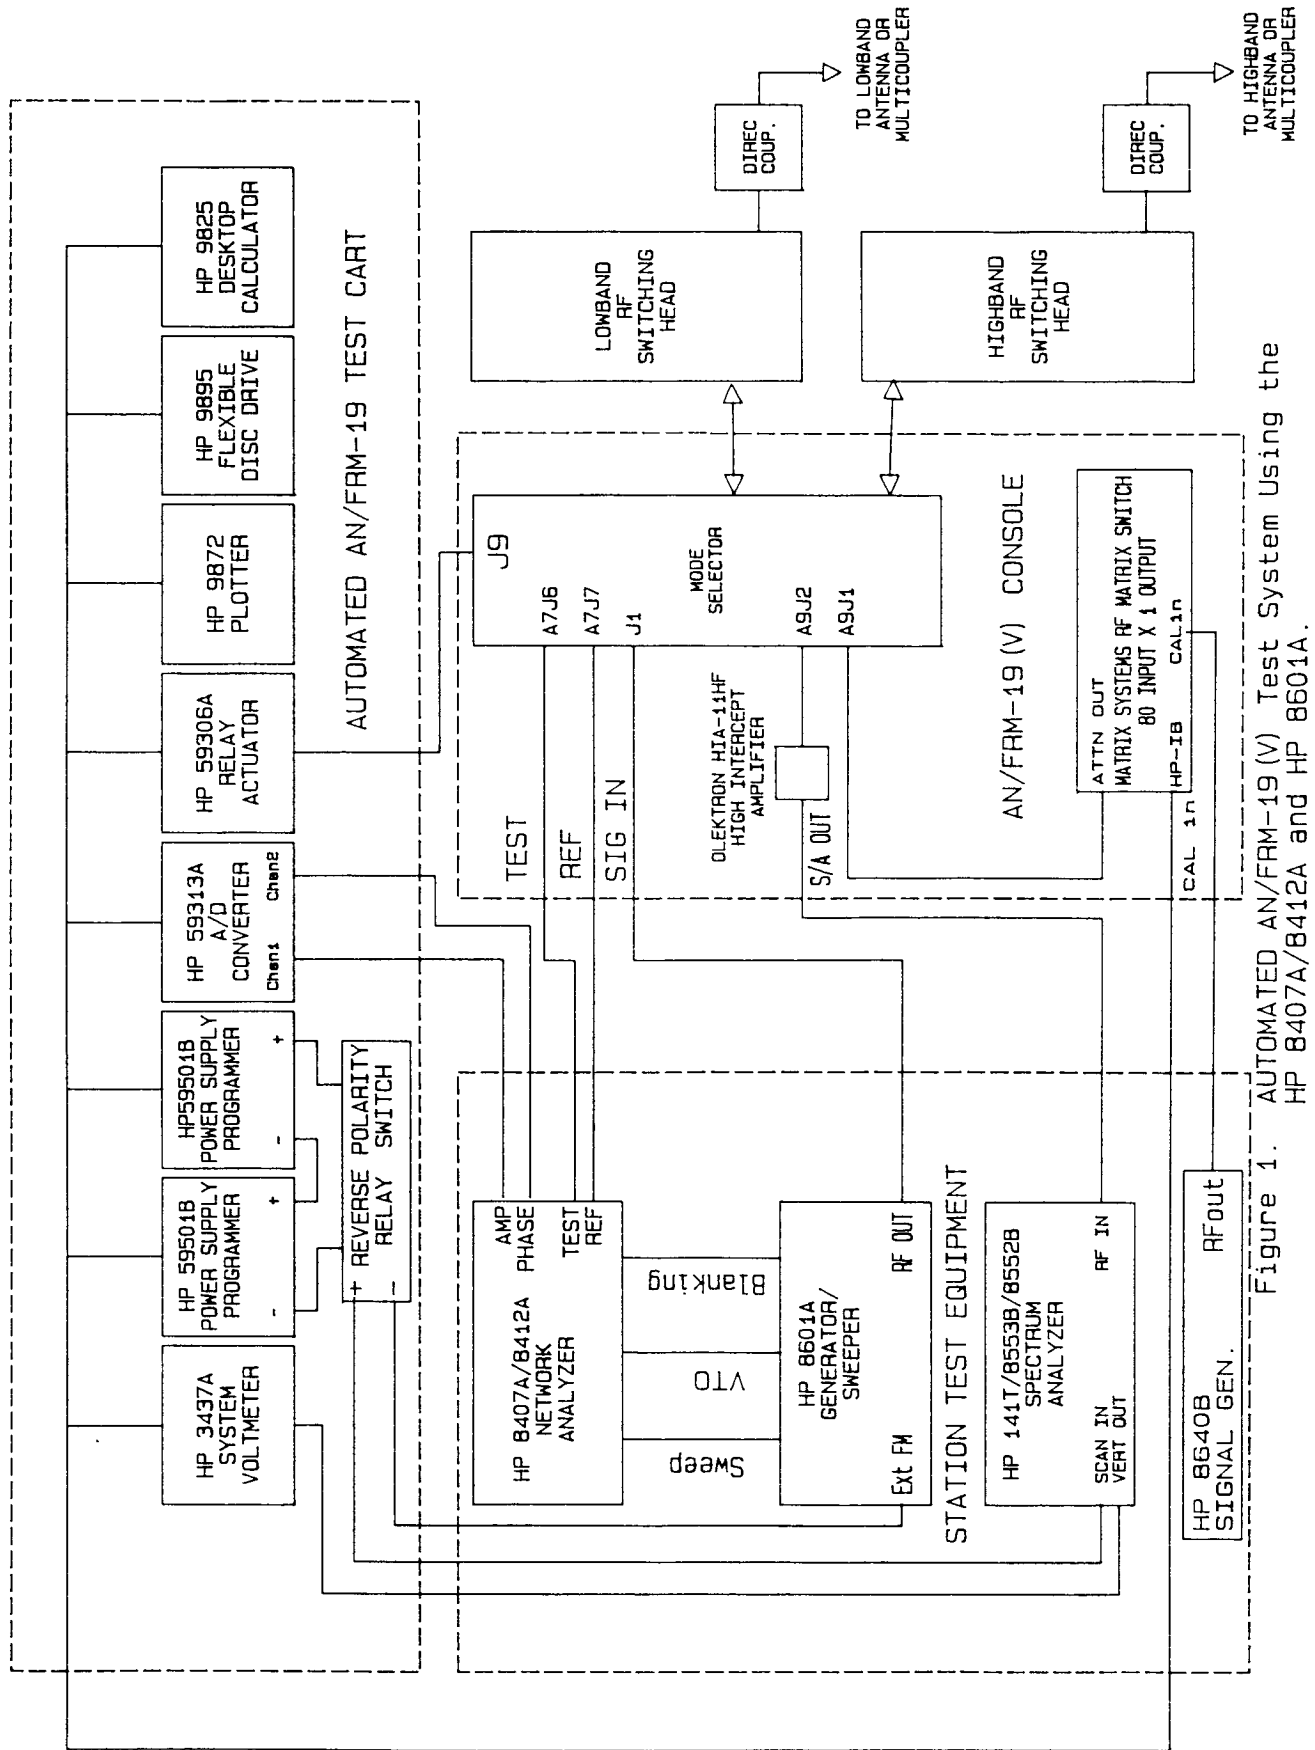
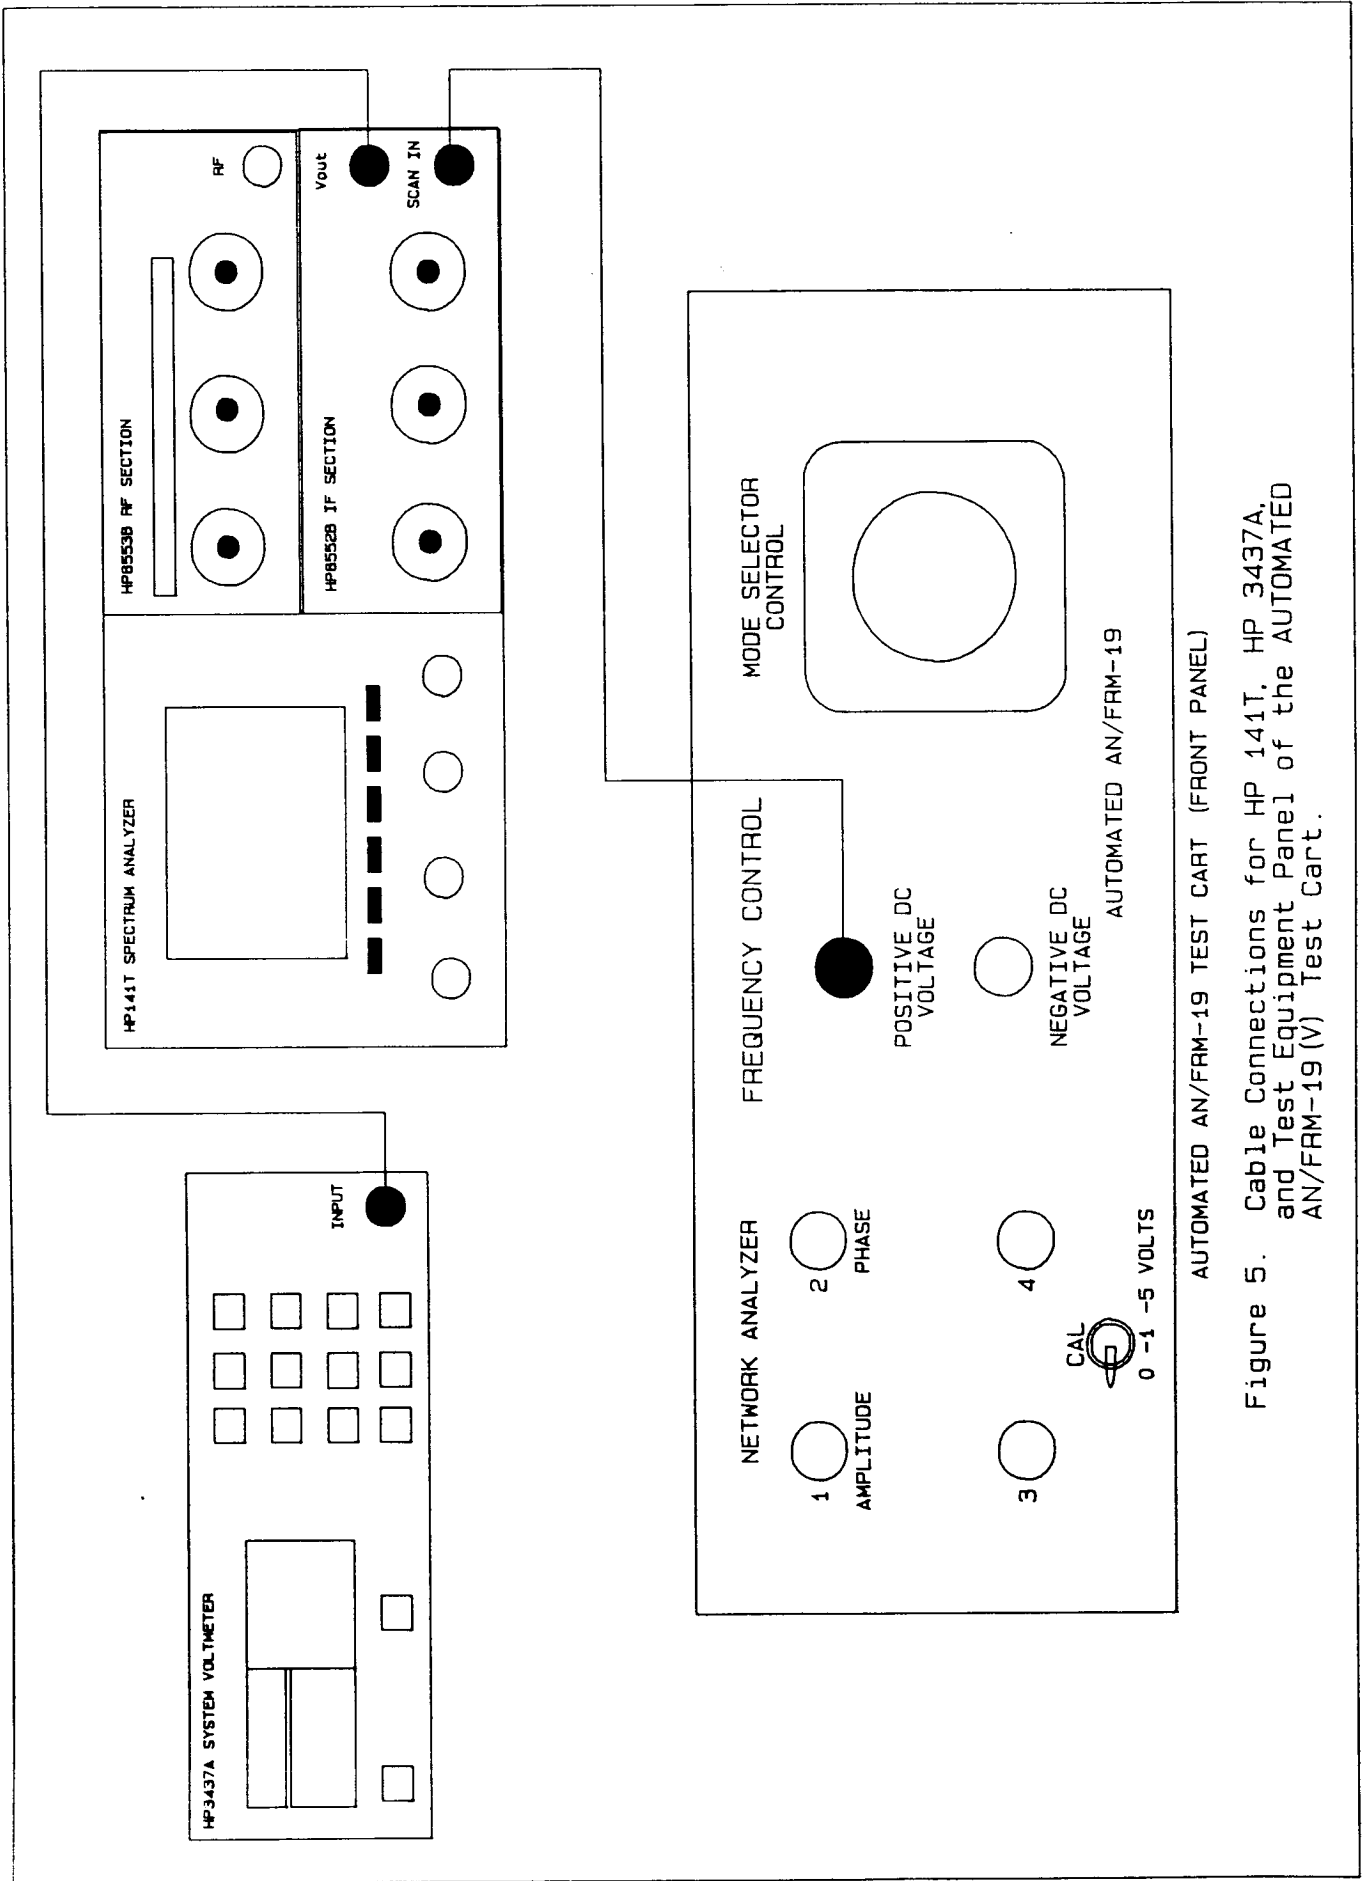

Figure 1. AUTOMATED AN/FRM-19 (V) Test System Using the HP 8407A/8412A and HP 8601A.
Figure 5. Cable Connections for HP 141T, HP 3437A, and Test Equipment Panel of the AUTOMATED AN/FRM-19(V) Test Cart.
The AUTOMATED AN/FRM-19(V) Test System automatically measures the uniformity of the Circular Disposed Antenna Array (CDAA) system components: the antennas/transmission lines (Antenna Test), primary multicouplers (Coupler Test), and beamformers (Beamformer Test). An additional test, the ANMS, will allow the site to measure their baseline noise/strong signal level on a periodic basis. A block diagram of the AUTOMATED AN/FRM-19(V) Test System using the HP 8407A/8412A and the HP 3577A Network Analyzer is shown in Figures 1 and 6, respectively.
Cable connections necessary to set-up the AUTOMATED AN/FRM-19(V) Test System using the HP 8407A/8412A Network Analyzer are shown in Figures 1 to 5 and Table 1. Cable connections necessary to set-up the AUTOMATED AN/FRM-19(V) Test System using the HP 3577A Network Analyzer are shown in Figures 5 to 7 and Table 2. Figures 8 and 9 are sample printouts of the Daily Automated Antenna and Multicoupler and Automated Beamformer Test results. A hardware description of the AUTOMATED AN/FRM-19(V) Test System is contained in Appendix A. A detailed description of the various test equipment controls and connections is provided in Appendix B.